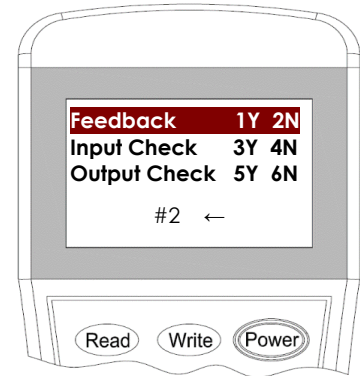

Figure 12: Page 2 for Second address
5. For the 2nd address, press "**0/Page**" to go to page 2 (Figure 12). Then complete with similar procedures above.